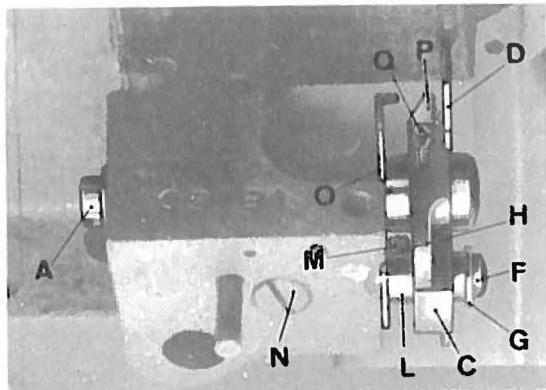
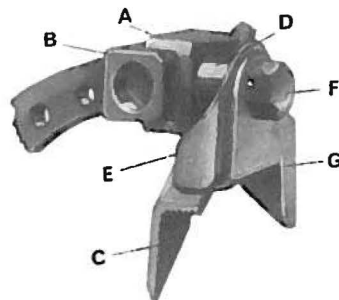

fig. 11
fig. 15
- With the needle in its lowest position; loosen screw F (fig. 11) and adjust needle guard support bracket P so that it touches the back of the rear needle guard.
- Loosen screw A (fig. 11).
- Place upper knife C (fig. 15) in upper knife holder A.
- Mount upper knife holder block D and trimming guards E and G (fig. 15) with screw F.
- Slide upper knife C against lower knife D (fig. 11) and check to see that cutting edge of top knife overlaps 1/16 inch the cutting edge of the bottom knife. If adjustment is required, move upper knife holder block A (fig. 15) left or right until the conditions described above, are obtained.
- Turn handwheel clockwise until upper knife holder block A (fig. 15) is in its uppermost position.
- Loosen screw N. (fig. 11)
- Activate lower knife holder C (fig. 11) by hand to the left.
- Retighten screw N (fig. 11).
10. Mounting the upper knife (fig.15)